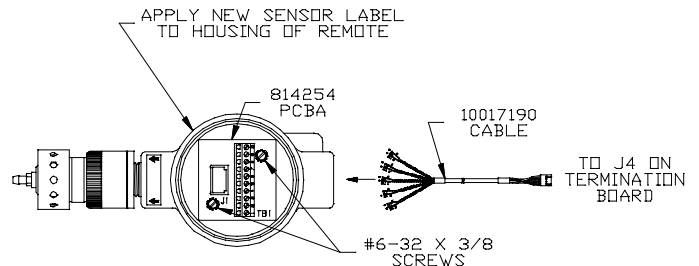

Figure 4. Remote Sensor
- When tightening the sensor body to the enclosure, completely tighten threads into the enclosure to ensure a minimum five-thread engagement forms an explosion-proof fit (FIGURE 4).
- Wire cable to the printed circuit board Terminal Block, noting the corresponding tags on the Cable [(FIGURE 4); also see Instruction Manual (P/N 813161) - Chapter 1, "Electrical Connections for the Ultima Remote Sensor Module"].